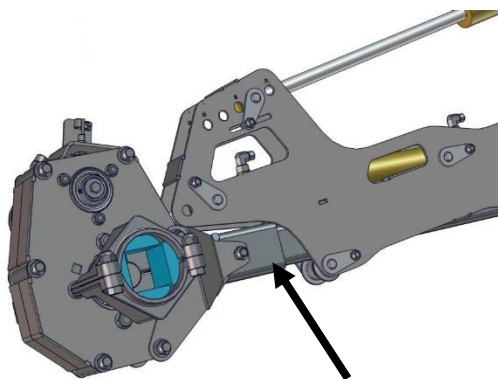

Figure 259
12. Once the gearbox is assembled install it back on the center arm. Make certain that the bolt holding the gearbox to the arm is secured. Figure 259